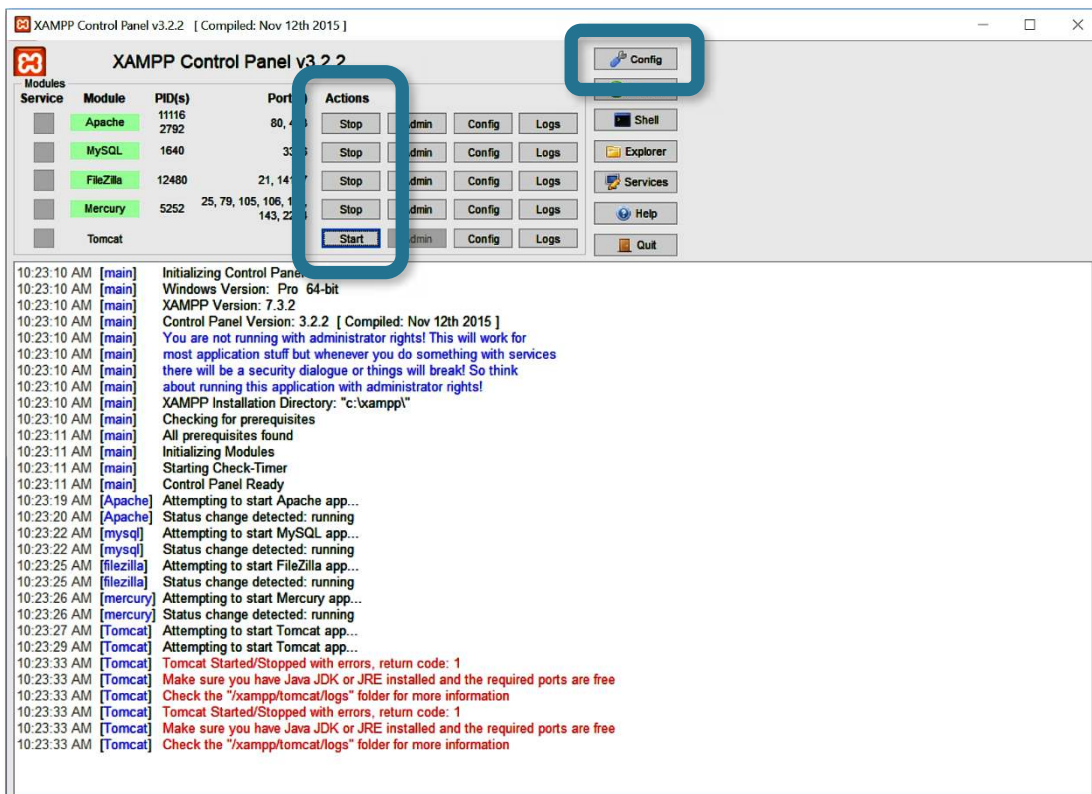
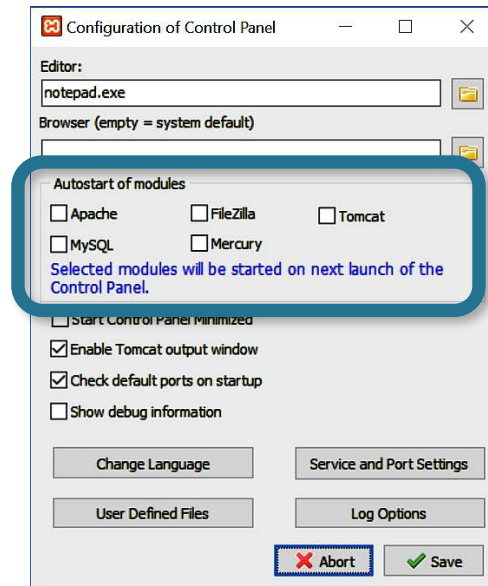

Figure 282 – XAMPP Control Panel Window
Figure 283 – XAMPP Control Panel – Configuration Window
Activating the **XAMPP Control Panel** opens its window (see Figure 282 below) where the **Apache**, **MySQL** and **FileZilla** options need to be marked.
- Either temporary – by selecting the **Actions'** column proper option command-buttons (marked in Figure 282 below) or,
- Lastingly – by selecting the  **Config** command-button (marked in Figure 282 below), which will open the **Configuration of Control Panel window** (see Figure 283 below), where the same options can be marked permanently as **Autostarters**.